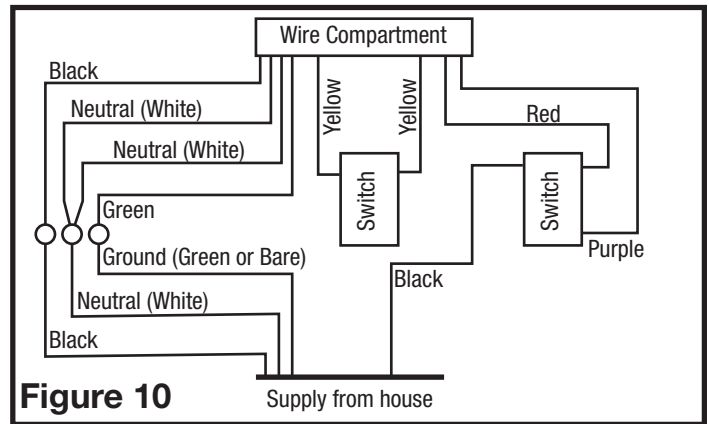

Figure 10
4. For two speed fans wired for continuous ventilation, connect the White wires of the fan to the White (Neutral) wire from the power source. Connect the ground wire from the house to the Green wire from the fan housing. Connect the Black wire of the fan to the Black wire (Hot) from the power source. The fan will operate on low speed continuously and boost to high upon a rise in humidity. Using a properly grounded switch, connect 1 yellow wire to each side of the switch. Closing the switch will change from normal to high speed. Using a properly grounded standard duplex toggle switch (such as Leviton 5224-2W, not included) connect the Black wire from the supply to one side of the top and bottom switch. Connect the Red wire (light) from the fan housing to the other side of the top switch and connect the Purple wire (night light) from the fan housing to the other side of the bottom switch. A manual override switch (not included) can be used to provide a manual fan Off function (Figure 10).